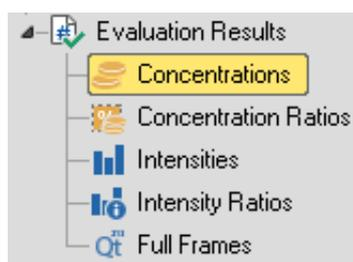

Figure 6-38. Evaluation Results sub-menus in completed LabBook
- Expand **Evaluation Results** to open the **Evaluation Results** view, for example, see Figure 6-38.